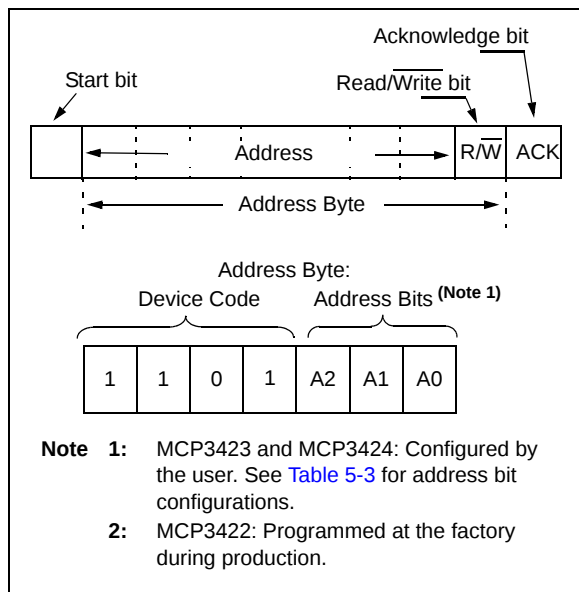
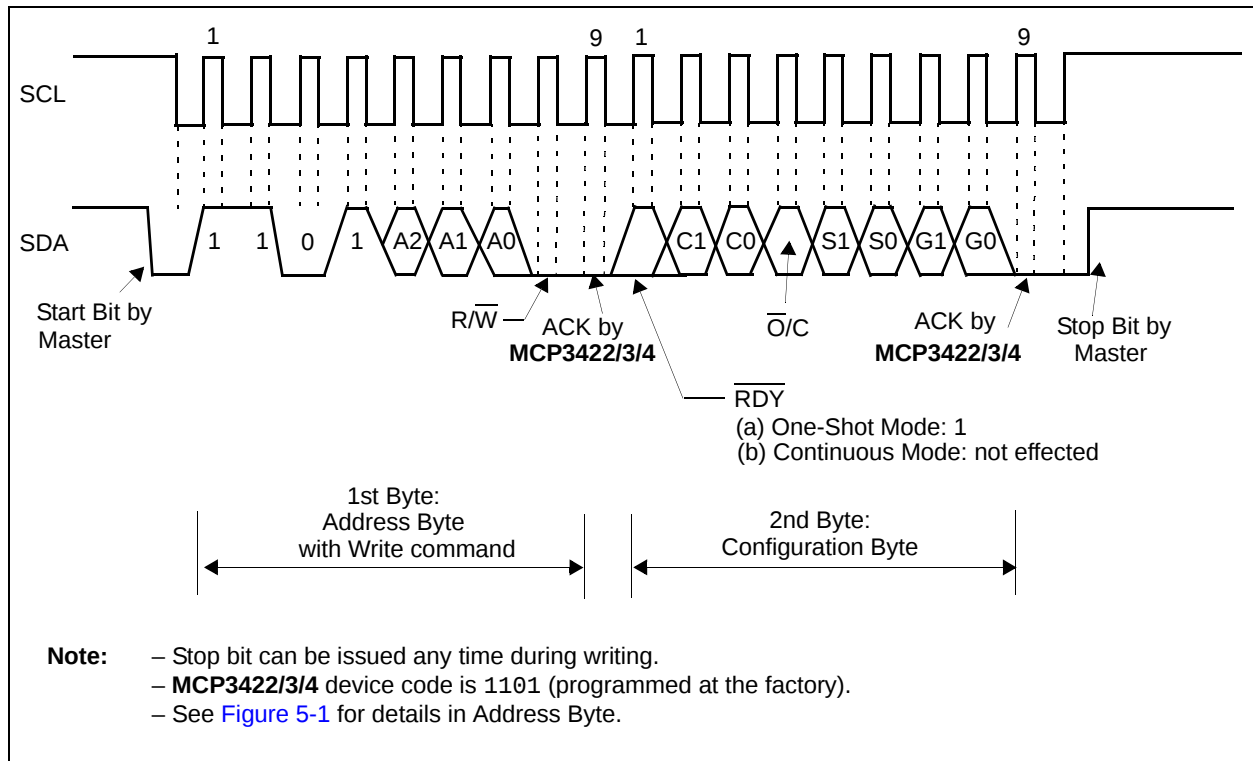

FIGURE 5-1: Address Byte.
FIGURE 5-3: Timing Diagram For Writing To The MCP3422/3/4.
The first byte after the START bit is always the address byte of the device, which includes the device code (4 bits), address bits (3 bits), and R/W bit. The device code for the devices is **1101**, which is programmed at the factory. The I²C address bits (A2, A1, A0 bits) for the MCP3423 and MCP3424 are user configurable and determined by the logic status of the two external address selection pins on the user's application board (Adr0 and Adr1 pins). The Master must know the Adr0 and Adr1 pin conditions before sending read or write command. Figure 5-1 shows the details of the address byte.
Figure 5-1 shows the address byte. Figure 5-3 through Figure 5-5 show how to write the configuration register bits and read the conversion results.
- See Figure 5-1 for details in Address Byte.